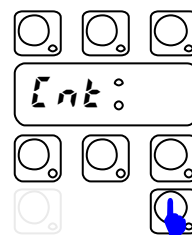

Fig. 4.3
- Use CYCLE_1 key to decrease the value and CYCLE_2 key to increase (Fig.4.3);